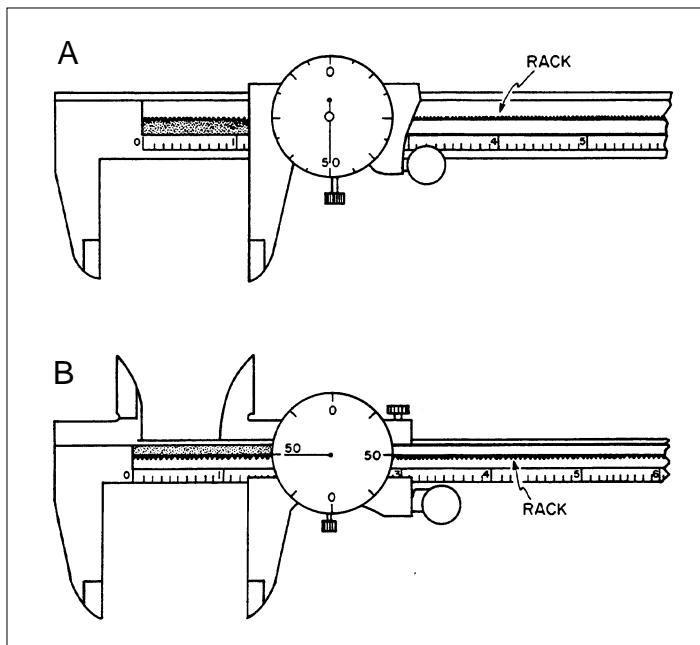

Figure 1.—Dial calipers.
To measure in decimals requires using dial or digital calipers. Figure 1 illustrates two different types. Diagram A shows a set of dial calipers with the “ears” filed off. Some quality control (QC) personnel prefer to grind off the sharp points (“ears”) that are used primarily to measure inside dimensions and so are of limited use in measuring lumber. This diagram also shows the serrated rack on